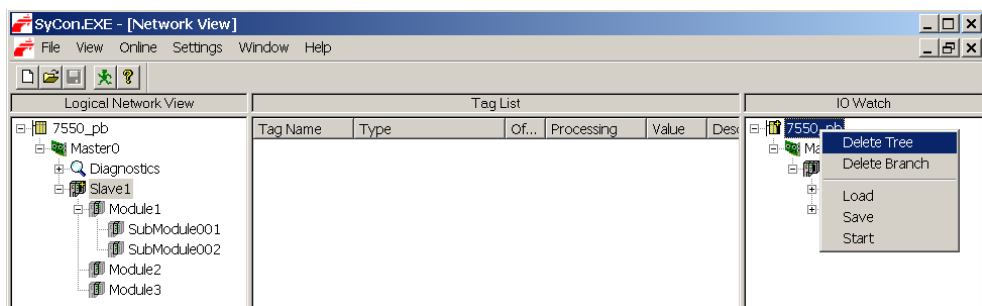

Figure 42: Clearing the tree view
- Delete the tree in the “IOWatch” window (*Figure 42*)